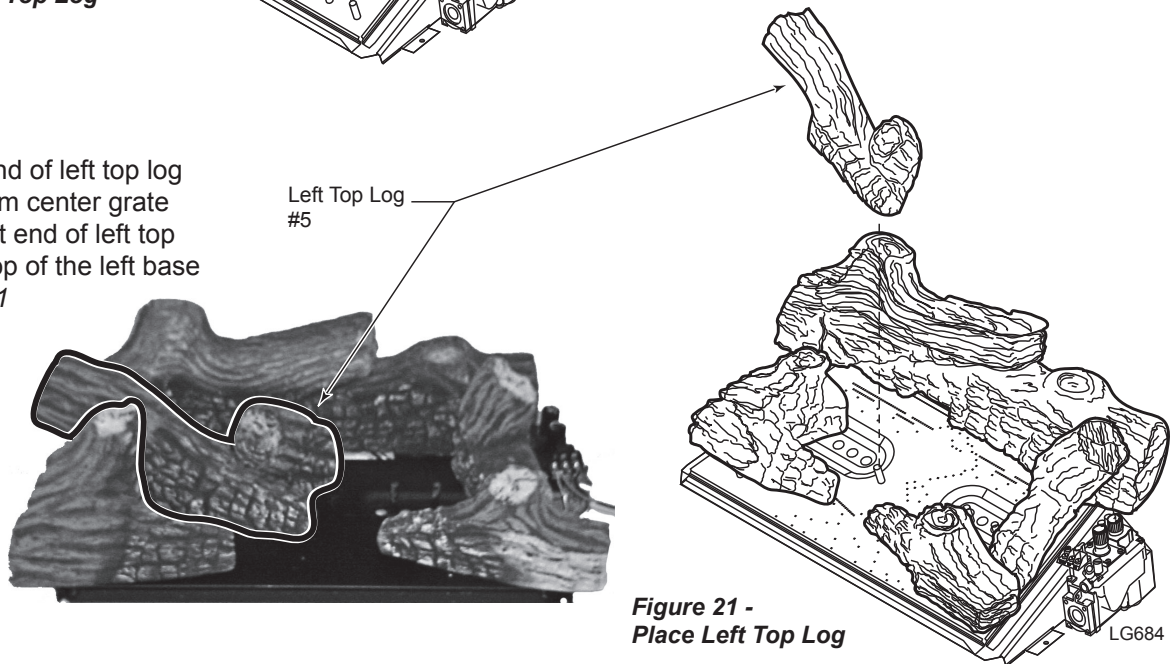

Figure 21 - Place Left Top Log
- 5. Place right end of left top log (#5) on bottom center grate pin. Place left end of left top log (#5) on top of the left base log. *Figure 21*